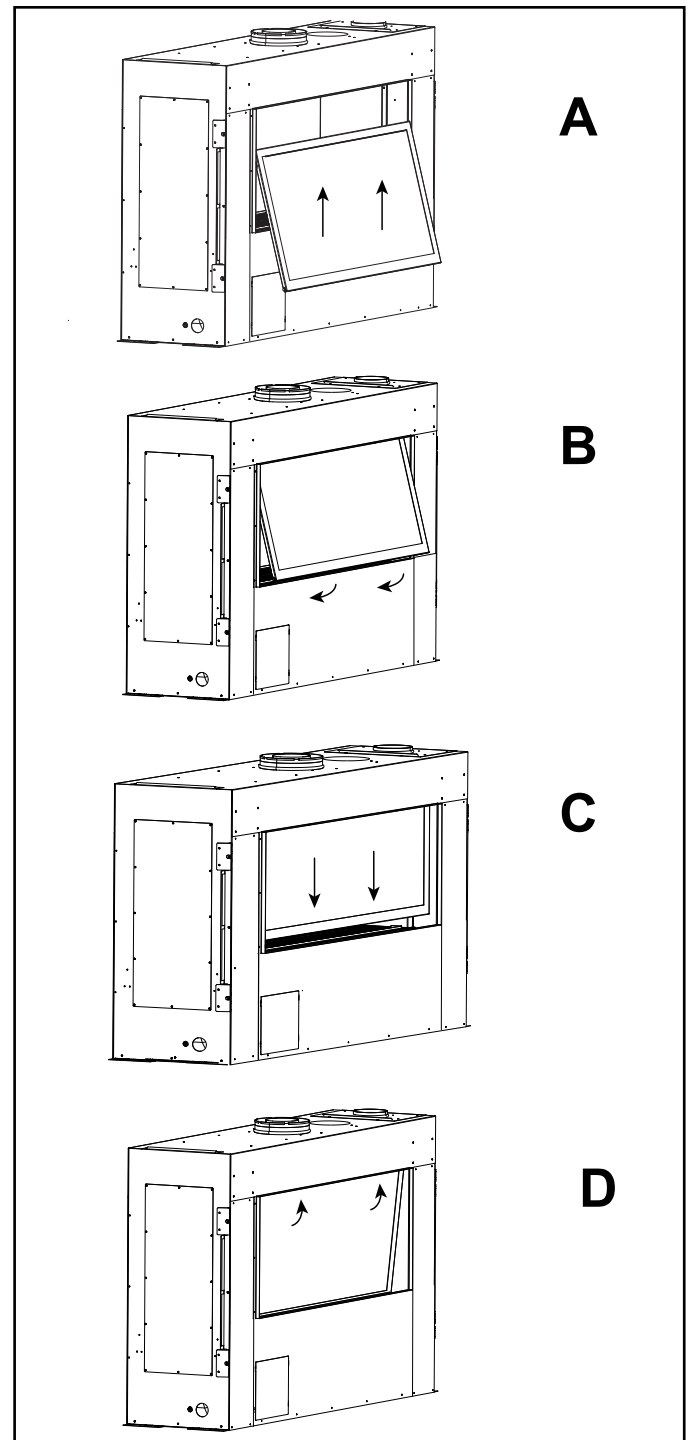

Figure 11.16 Replacing Firebox Glass
1. Place the top of the firebox glass assembly into appliance first. Tilt the bottom in toward the firebox and set glass assembly into the glass frame rail ensuring that the assembly is centered left to right. See Figure 11.16.